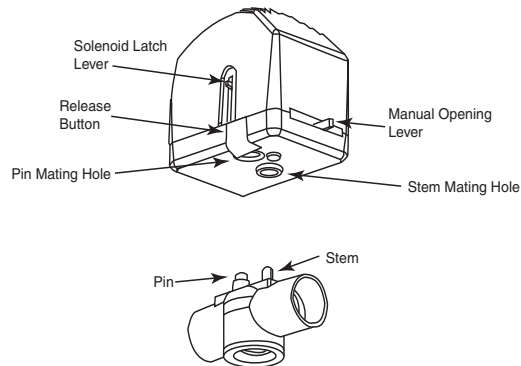

Figure-4 Three-Way Spring Return Valves
- With the valve in mid-position, latch the solenoid by placing the manual solenoid latch lever in the "Up" position. Detach the actuator by depressing the release button and pulling it away from the valve body (Figure-4).
When installing threaded valves, the actuator should be detached from the valve body to ease installation. To do so, first slowly move the actuator's manual operating lever (on the front of the actuator) to mid-position. Latch the solenoid by placing the red manual solenoid latch lever on the side of the actuator to the "Up" position. Finally, detach the actuator by depressing the release button and pulling the actuator away from the valve (Figure-4).
3. Align the valve body with the actuator to ensure the stem is inserted into the large mating hole on the bottom side of the actuator (Figure-4).